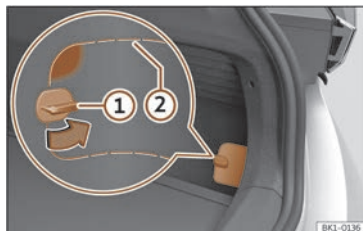

Fig. 62 On the lower right-hand side of the luggage compartment trim: cover with cutting lines.
- Turn the cover lock >>> **Fig. 62**  through 90°.
- Press the surface over the lock inwards >>> **Fig. 62** (marked zone).
- Insert your hand through the opening and pull the cover off. If necessary, apply a suitable object along the cutting lines  >>> **Fig. 62**.